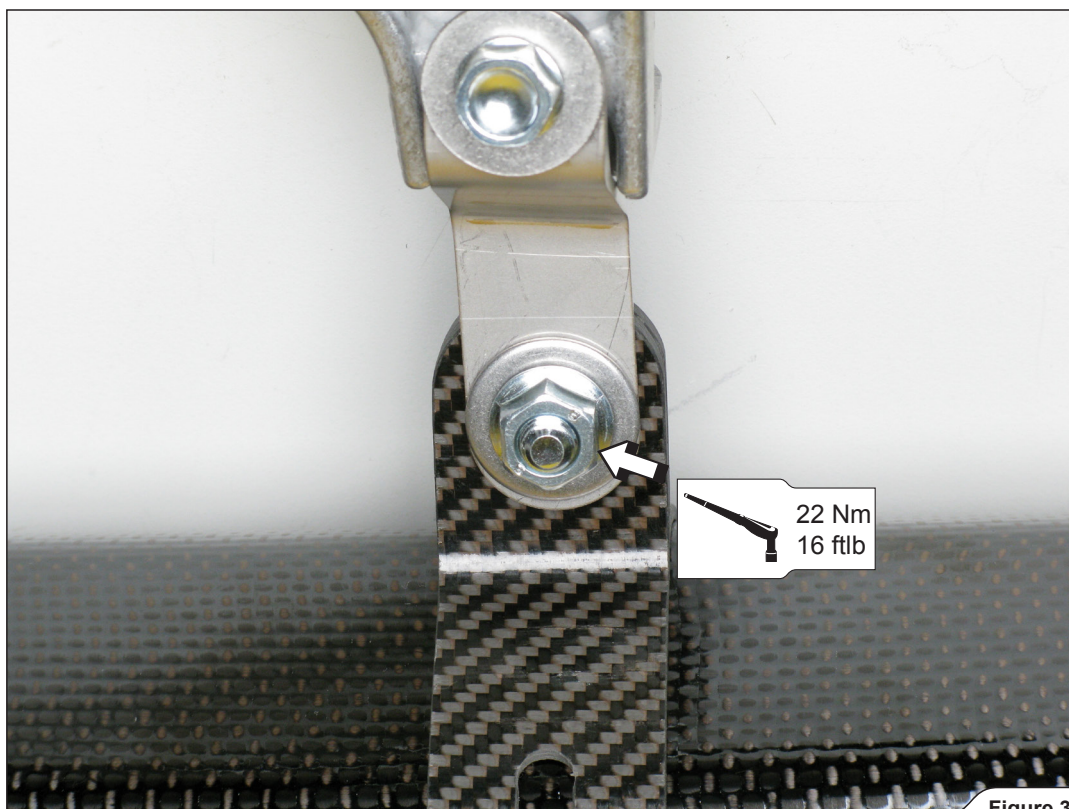

Figure 33
16. Align the muffler in respect to the motorcycle and tighten the muffler clamp to the bracket, using Akrapovič bolt, washers, and nut as shown (Figure 33).